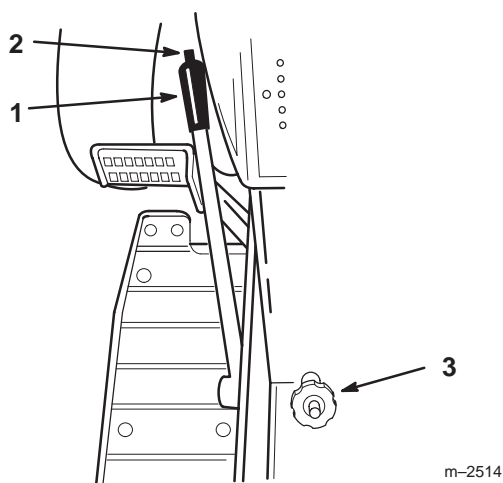

Figure 13
The attachment lift lever (Fig. 13) is used to raise and lower various attachments.
The Dial-A-Height control (Fig. 13) is used to limit the downward travel of the attachment. The Dial-A-Height knob is rotated to change the location of this stop, up or down.
1. Raise the attachment lift; refer to Raising an Attachment. In the raised position the Dial-A-Height knob (Fig. 13) can be rotated to change the stop location. Turn clockwise to raise and counterclockwise to lower the height of the attachment.
2. The Dial-A-Height indicator (Fig. 13) will show the change, high to low, in attachment lift height as adjustment is made.